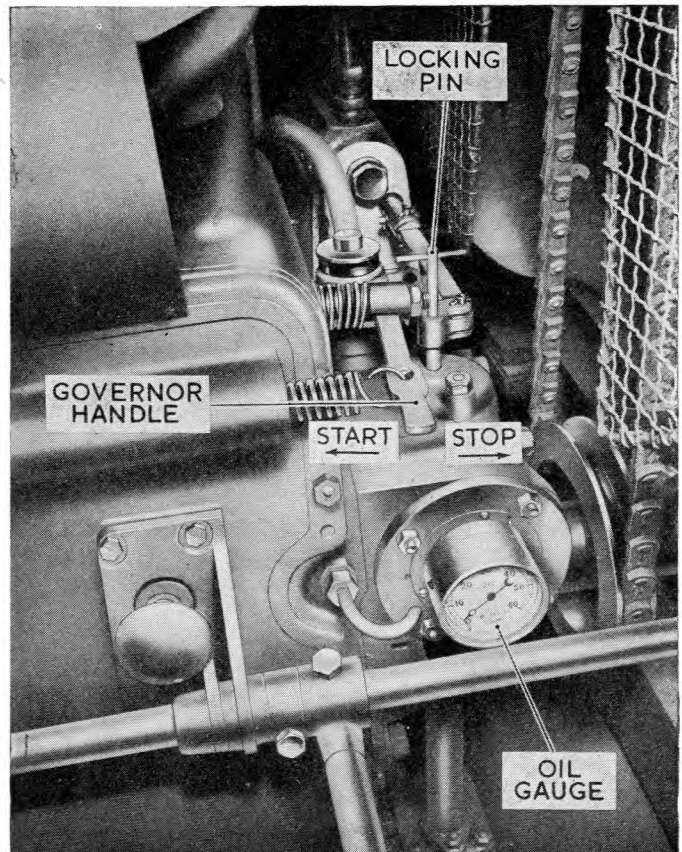

Fig. 11. Diesel engine : governor handle and locking pin
- (2) Place the governor handle in the stop position (towards the radiator) with the locking pin in the slot (*fig. 11*). Attempt to start the engine before proceeding further.
- (2) Exhaust smoke. This is normally clear; if it is blue it is a sign that the engine is running at too low a temperature. If the smoke is black it is a sign that one or more of the injectors is stuck and the engine should be stopped and the stand-by unit used.
- (3) Oil pressure. Check that this is between 8 and 15 lb. per sq. inch as read on the gauge (*fig. 11*).
- (4) Compression change-over knobs. Check that these are fully screwed out.